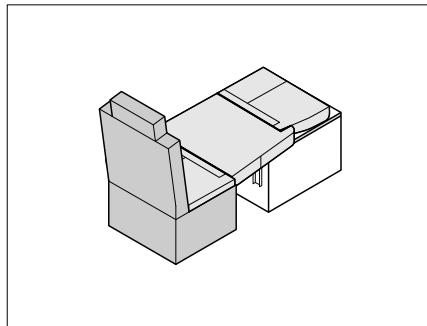

Fig. 227 Positioning the seat cushions
- Place the seat and additional cushion onto the lowered table as illustrated in Fig. 227.